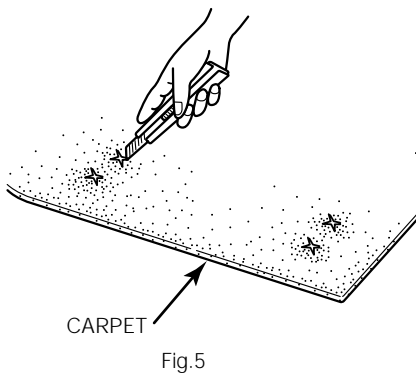

Fig.5
4. Replace the carpet and cut x pattern thru carpet where the mounting bolts appear. (Fig.5)